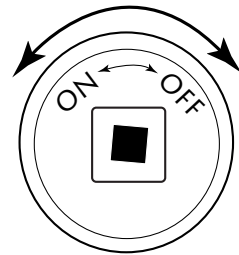

Fig. 26. Key Valve Face
1. Insert key into shut-off valve and secure into square end (see figs 26 & 27).